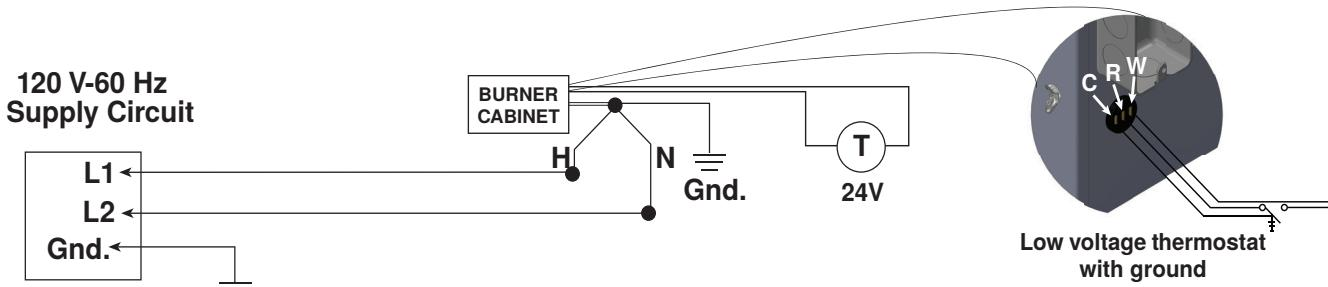
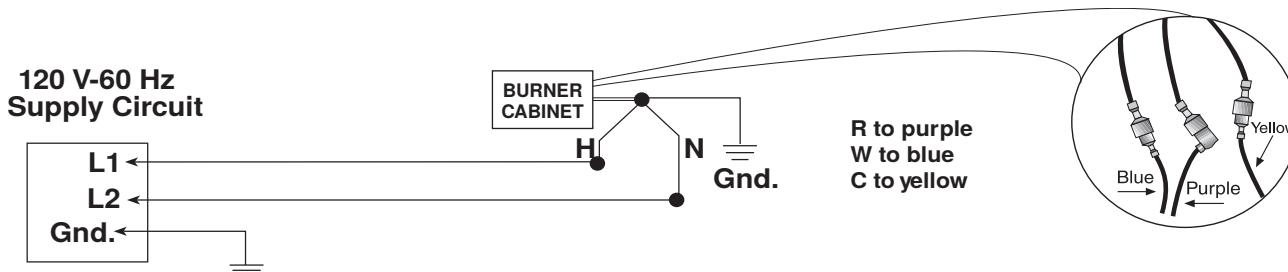
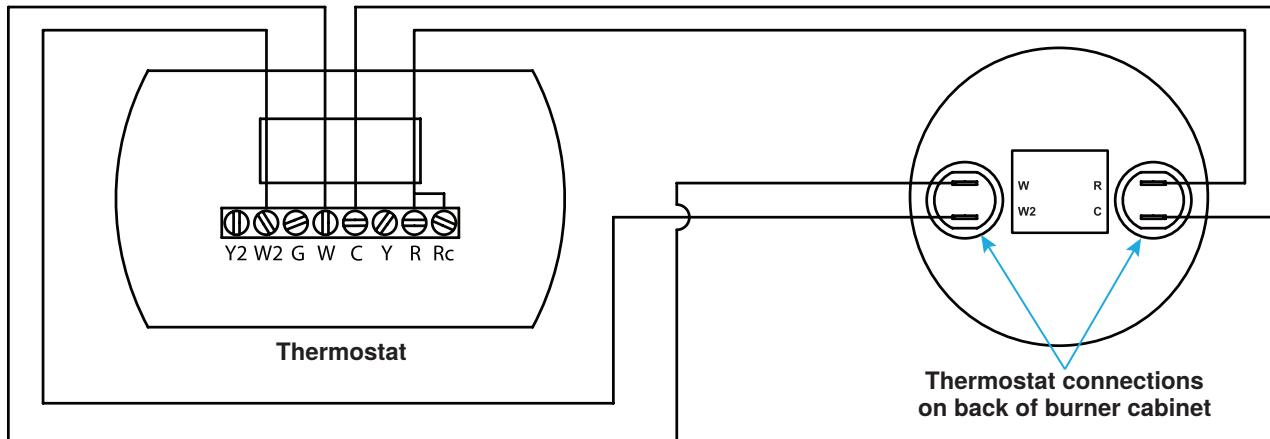

Figure 33. Model VZ Low Voltage Thermostat Wiring
Figure 34. Model VZH Low Voltage Thermostat Wiring
Figure 35. Model VZT Low Voltage Two-Stage Thermostat Wiring
- **Low voltage thermostat:** Install the low voltage thermostat in accordance with the thermostat manufacturer's instructions. Terminals R and C on the terminal strip provide 24V to the thermostat. For model VZ, connect wiring in accordance with Figure 33. For model VZH, connect wiring in accordance with Figure 34. For model VZT, connect wiring in accordance with Figure 35. For connecting multiple burner cabinets (up to eight), a separate transformer relay (option IRT1) must be installed. Refer to the manufacturer's installation instructions provided with the transformer relay and to the wiring diagrams in the replacement parts manual found at [www.reznorhvac.com](http://www.reznorhvac.com).